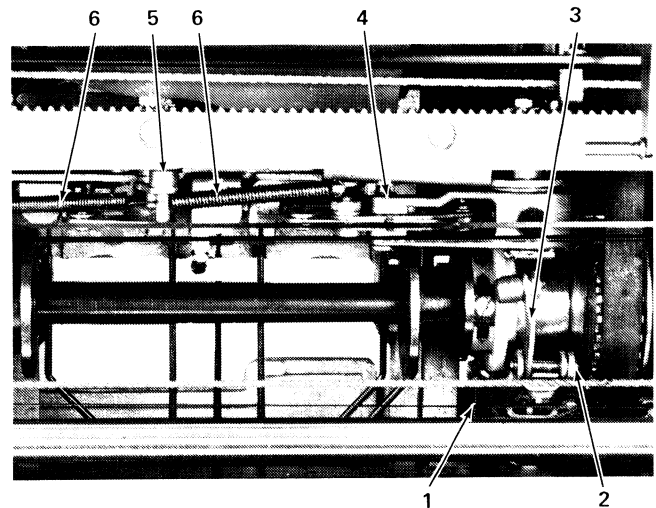

Figure 4-27. Differential Bracket Removal (Top View)
11. Remove the cycle clutch latch spring (No. 1, Figure 4-27).
12. Remove the C-clip from the cycle clutch latch pivot pin closest to the cycle clutch pulley, and remove the pivot pin (No. 2, Figure 4-27).
13. Remove the cycle clutch latch guide (No. 3, Figure 4-27).
14. Remove the C-clip from the negative latch link (No. 4, Figure 4-27).
15. Remove the C-clip from the tilt link stud (No. 5, Figure 4-27).
16. Remove the rotate arm and tilt differential springs (No. 6, Figure 4-27).